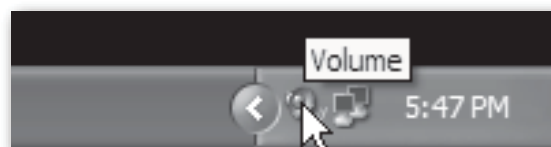
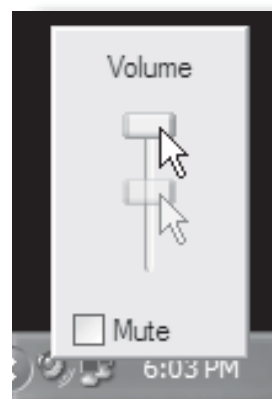

Figure 3
Figure 4
3. Most of the time, you'll want the output volume from the computer at the maximum position, but sometimes it defaults to the middle of the slider, making the output very quiet. The volume can be increased in several ways. The simplest is to click the loudspeaker icon (figure 3) in the system tray and drag the slider to the top (figure 4).